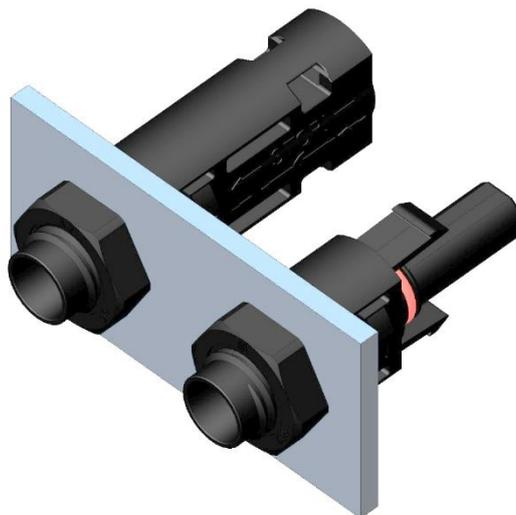

Figure 17
- ✧ 安装公/母面板连接器时，推荐用 1.4 N.m 的扭矩锁紧螺母。具体情况，需要由终端用户根据不同的面板验证合适的扭矩(如图 17)。
When installing the male or female panel connector, it is recommended to use 1.4 N.m torque lock nut. The appropriate torque has to be verified in the end use according to the respective housing (Fig.17).